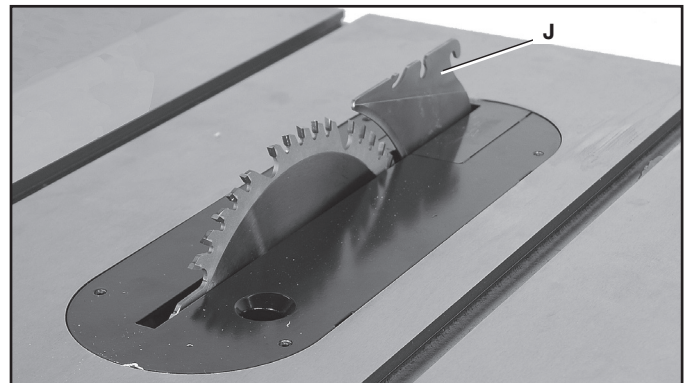
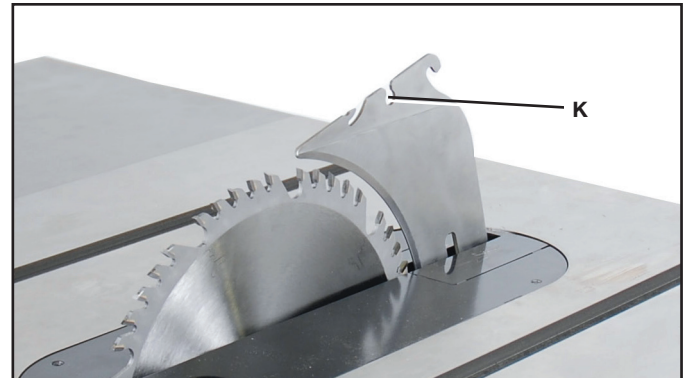

FIG. 9
FIG. 10
The riving knife (J) Fig. 9 comes installed in the low, non-through cutting position.
To assemble the anti-kickback and blade guard assemblies, the riving knife must be in the raised position as shown in Fig. 10. (See **Riving Knife Operation and Adjustment** section for how to raise and lower the riving knife.)
1. Locate the anti-kickback mounting hole (K) Fig. 10 at the top of the riving knife (J) Fig. 9.